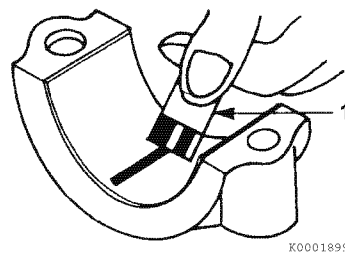

Figure 6-60
- 5- Compare the width of the flattened PLASTIGAGE to the graduation marks on the package (1, **Figure 6-60**). The mark that most closely matches the width of the flattened PLASTIGAGE will indicate the bearing oil clearance.